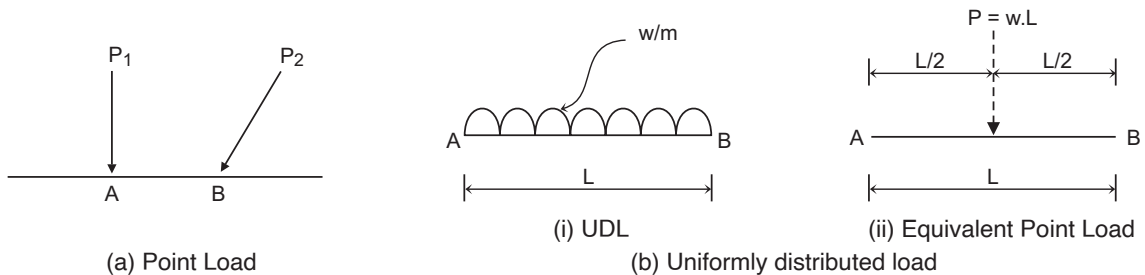

Fig. 2.9: Types of load
(C) Uniformly varying load (UVL) [fig. 2.9 (c)]